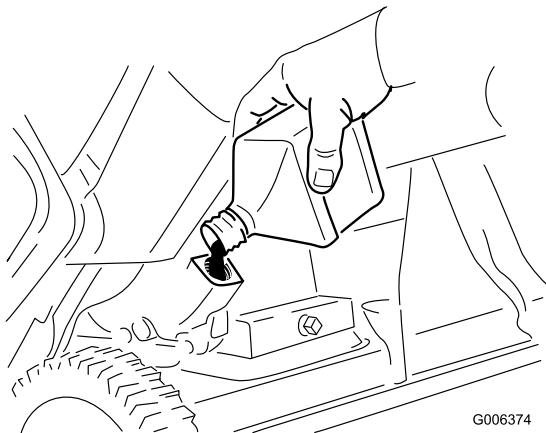

Figure 27
- With the snowblower in the operating position, **carefully** pour oil into the oil fill hole to the point of overflow (Figure 27).